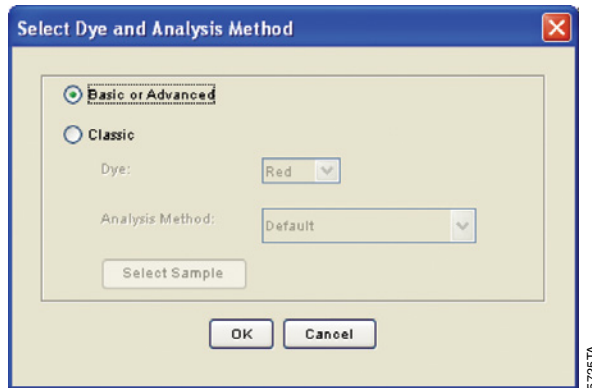

Figure 16. The ‘Select Dye and Analysis Method’ window.
4. Select **Basic or Advanced** (Figure 16). The type of analysis method selected must match the type of analysis method created earlier. Select **OK**.